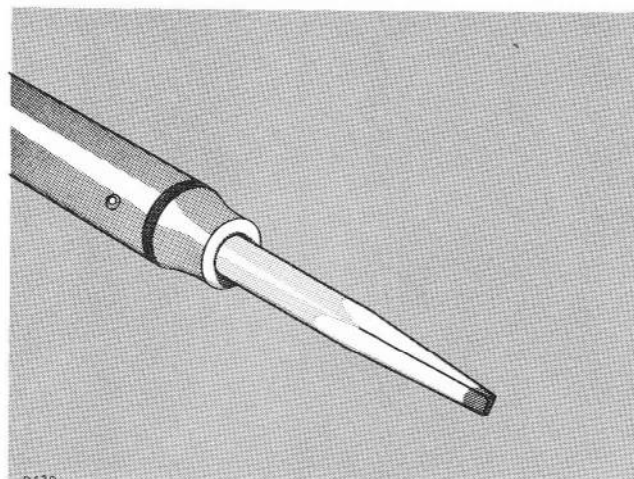

Fig. 5-1. Soldering iron tip properly shaped and tinned.
Because of the shape of the terminals on the ceramic strips it is advisable to use a wedge-shaped tip on your soldering iron when you are installing or removing parts from the strips. Fig. 5-1 will show you the correct shape for the tip of the soldering iron. Be sure to file smooth all surfaces of the iron tip to be tinned. This prevents solder from building up on rough spots where it will quickly oxidize.
2. Prepare the tip of the iron as shown in Fig. 5-1.